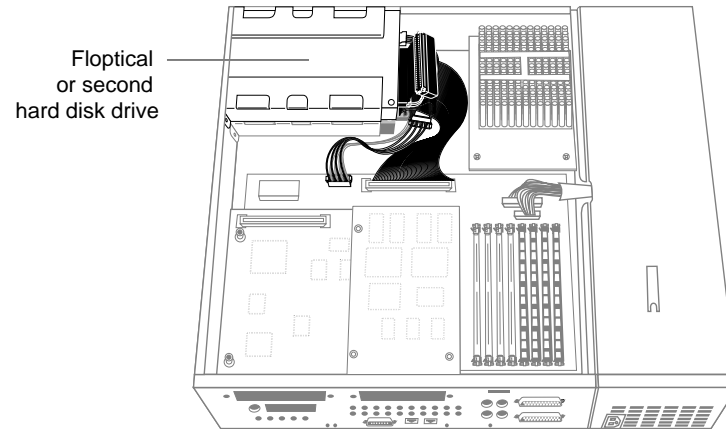

Figure 8-30 Locating the Floptical Drive Installed in the Top Slot
5. Locate the floptical drive (if installed) in the top drive slot, as shown in Figure 8-30 .